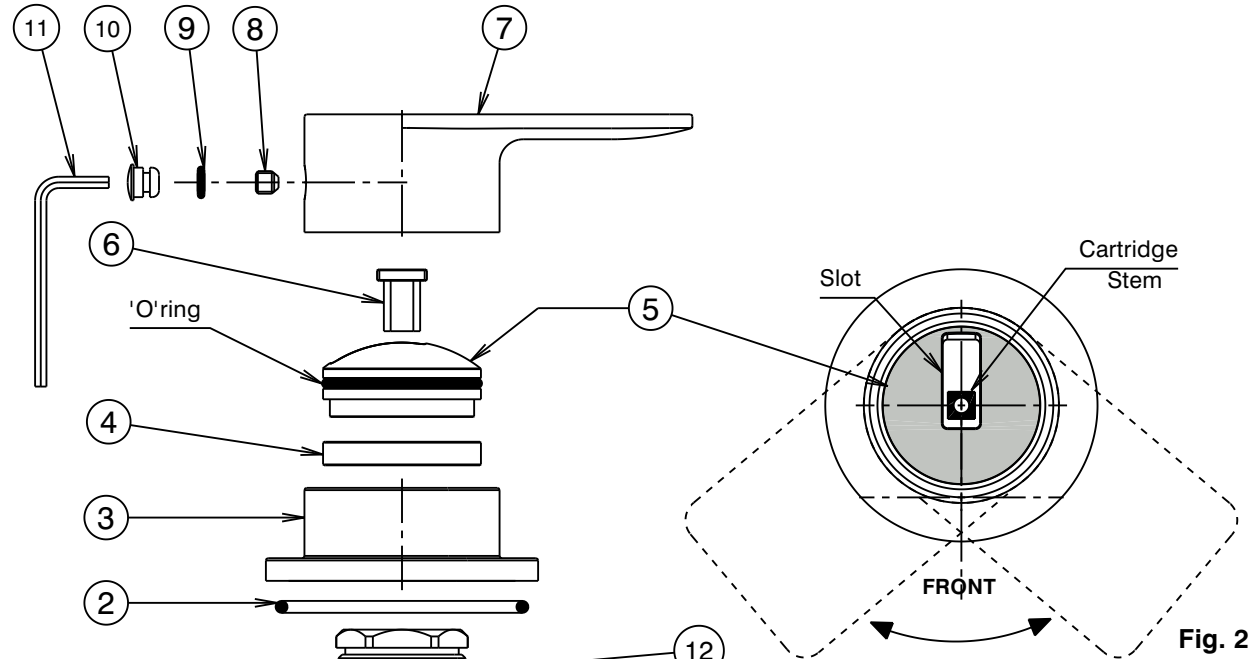

Fig. 2
- 1) Flexible Tail Mixer Connections: Apply suitable lubricant to 'O' rings (7). Fit flexible tail (12) (with red indication) into inlet hole marked with a Red Dot. Hand tighten the tail, ensuring the 'O' ring (7) has fully entered the sealing bore to provide a watertight joint, fit flexible tail (with blue indication) into the hole marked with blue dot then fit the remaining hose in the remaining hole in a similar way.
- 2) Slide the fibre washer (1) over the thread of body (2), Pass the hoses through the hole in the deck, Insert mixer body (2) together with washer (1) into deck hole, set the orientation of the mixer body (2) by keeping the indication mark pointing forward, This will determine the handle orientation, See (Fig. 2). Fit washer (4) together with flat seal (3) over thread of mixer body (2) as shown in (Fig.1). Screw clamp ring (5) onto threaded tube until it contacts washer (4) & the flat seal (3) has contacted the underside of the deck. Tighten two screws (6) using a 3mm allen key until mixer assembly is clamped firmly to the deck. DO NOT OVERTIGHTEN.
- 3) Flexible Tail Inlet Connections: Connect the other end of the blue flexible hose (12) to the cold isolating stop tap, Connect the red flexible hose (12) to the hot isolation stop tap. If compatible swivel outlet is already installed then connect the remaining flexible hose of the mixer to the inlet connection thread of swivel outlet. Hand tighten all fixing nuts (8) until rubber cone contacts the sealing face of the connection end, then tighten a further one turn to provide a watertight joint.
- 2) Ensure O'ring (2) is fitted into groove under the flange (3), screw flange (3) onto the thread of body (1) and hand tighten until 'O'ring firmly contacts deck. Clean all contact surfaces of swivel cap (5), 'O'ring and thrust washer(4), ensure they are clean and free from any debris. Lubricate the thrust washer (4), underside of cap (5) and 'O'ring then fit the thrust washer(4) around the nut inside mixer body (1). Ensure that the cartridge stem is in closed position, fit the swivel cap (5) along with 'O'ring into the mixer (1) and ensure the swivel cap cut-out is positioned as shown in **Fig.2**. Fit the insert (6) over the cartridge stem and push it down. Fit the handle (7) taking care that it is pushed fully onto cartridge stem & bottomed on the plastic insert (6) then tighten screw (8) using the 2.5mm allen key (11). Fit handle plug (10) together with 'O'-Ring (9) into handle (7) taking care not to damage decorative finish.
- 2) Carefully remove handle plug (10). Using 2.5mm allen key (11), loosen screw (8) and remove handle (7). Remove plastic insert (6) then extract swivel cap (5) and thrust washer (4) from the mixer body (1), taking care not to damage the decorative finish. **Hint:** The small end of the allen key (11) can be inserted into the slot in the swivel cap (5) and used to lever the cap vertically to remove.
- 3) Ensure inside face of mixer body (1) is clean. Check that seal is in position in base of new cartridge (13). Fit new cartridge (13) into mixer body (1), taking care that two lugs on base of cartridge (13) fit into mating holes in mixer body(1).
- 4) Screw on nut (12). **Important:** Nut (12) should be tightened to a torque of 7.5 Nm.
- 5) Clean all contact surfaces of swivel cap (5), 'O'ring and thrust washer (4), ensure they are clean and free from any debris. Lubricate the thrust washer(4), underside of cap (5) and 'O'ring then fit the thrust washer (4) around the nut (12). Ensure that the cartridge stem is in closed position with the flats on the stem orientated square with the outlet. Fit the swivel cap (5) along with 'O'ring into the mixer body (1) and ensure the swivel cap cut-out is positioned as shown in **Fig.2**. Fit the insert (6) over the cartridge (13) stem and push it down.
- 6) Fit handle (7) taking care that it is pushed fully onto cartridge stem, then tighten grub screw (10) using the 2.5mm allen key (11). Fit plug (10), taking care not to damage the decorative finish.